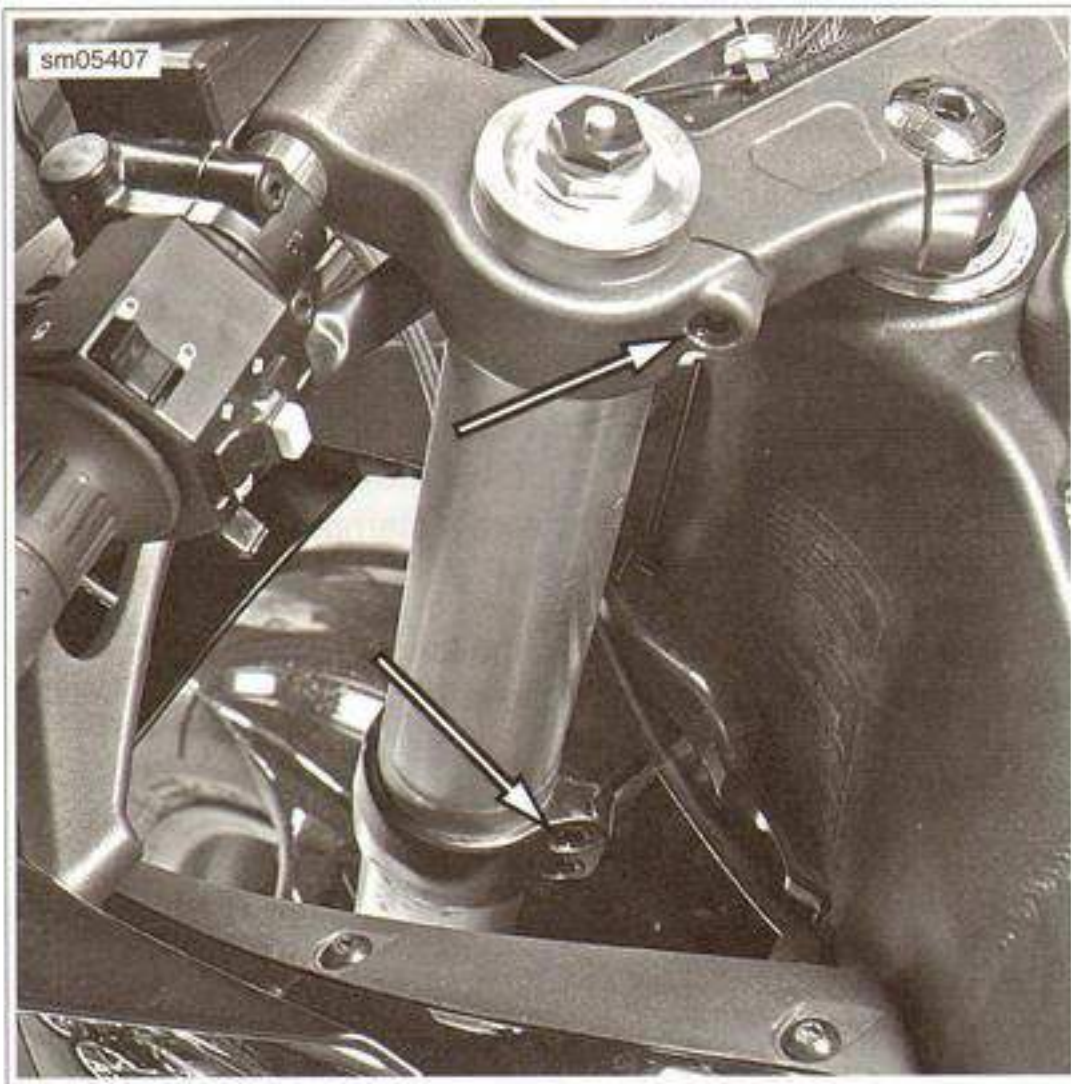

Figure 2-80. Fork Clamp Pinch Bolts
4. See Figure 2-80. Loosen the upper and lower fork clamp pinch bolts.